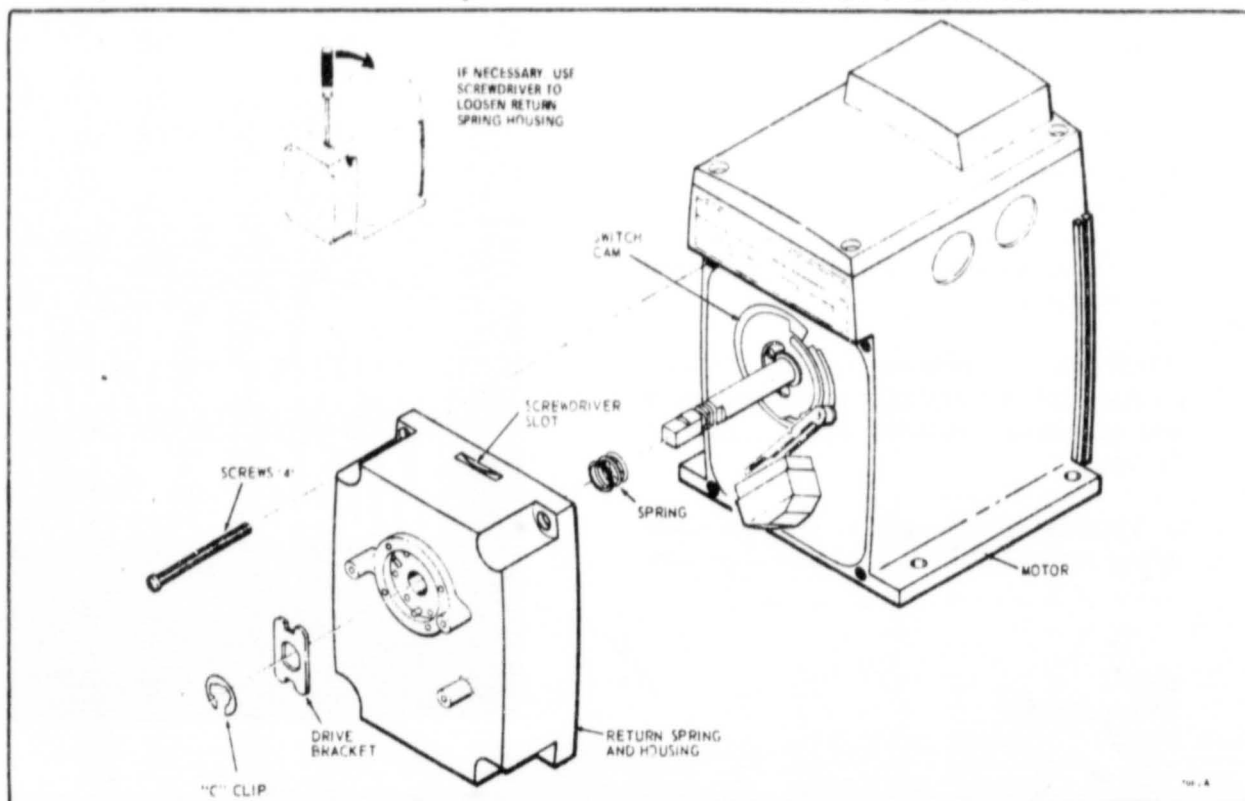

FIG. 18—REMOVING THE RETURN SPRING HOUSING TO ADJUST AUXILIARY SWITCH.
1. Remove the "C" clip holding the drive bracket against the spring hub. Take off the drive bracket. Refer to Fig. 18.